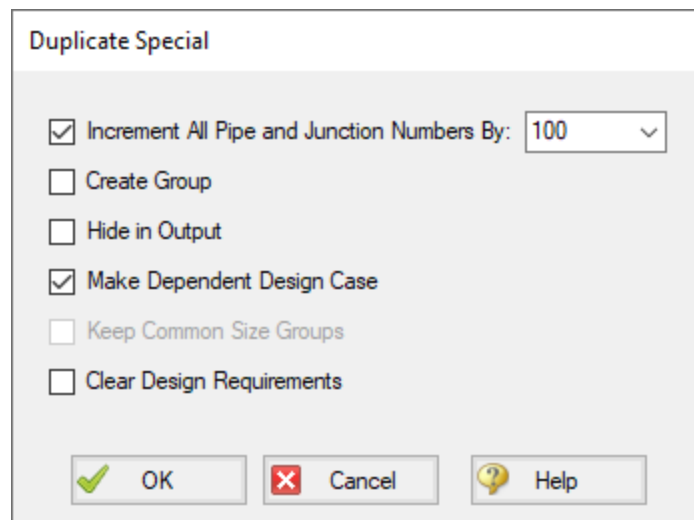

Figure 9: Duplicate Special settings to create a dependent design case
4. Open Duplicate Special (from the Edit menu), enter an increment of 100 and select Make Dependent Design Case (Figure 9). Click OK.